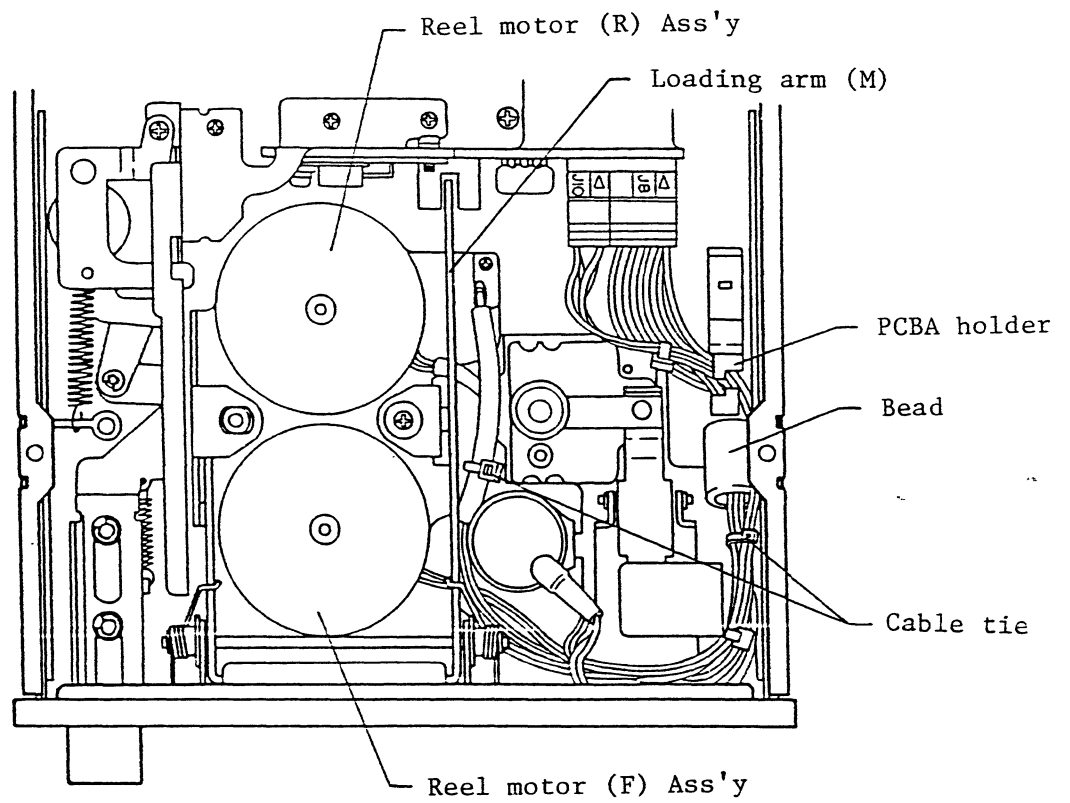

Fig.436 Replacement of reel motor (F),(R) Ass'y (1)
- (e) Cut with the nipper the cable tie, which clamps the cables of the reel motor (F), (R) Ass'y (Fig. 436).
- (f) Extract the contacts of the reel motor (F), (R) Ass'y from the connector housing (terminal Nos. 5, 6, 7, and 8).
- (g) Remove the cables of both the reel motors from the PCBA holder and bead to make them free (Fig. 436).
Remark Thread each cables of the reel motors under the loading arm (M) (Fig. 436).
- (d) Cut with the nipper the cable tie, which clamps the cables of the LED hole sensor Ass'y (Fig. 436).
- (f) Remove the two cables of the LED hole sensor Ass'y from the PCBA holder and bead to make them free (Fig. 436).
- (f) Cut with the nipper the cable tie, which clamps the cables between the solenoid stopper and bead (Fig. 436).